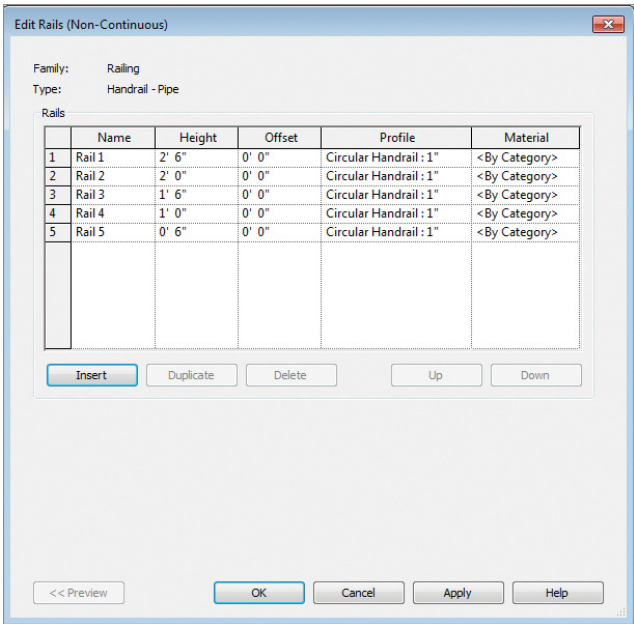

FIGURE 4.3 Deleting railing types
- 2. Click Edit for the Rail Structure (Non-Continuous) parameter. In the resulting dialog box, shown in Figure 4.3, delete Rail 1 through Rail 5 by selecting each line (such as Rail 2) and clicking the Delete button. Doing so eliminates all the horizontal rails under the top rail. Close the dialog box by clicking OK. Since Revit Architecture 2013, the top rail is controlled by its own parameter in the main Type Properties dialog box.